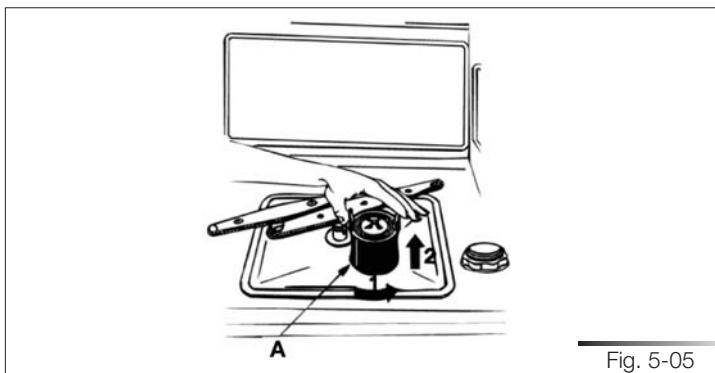
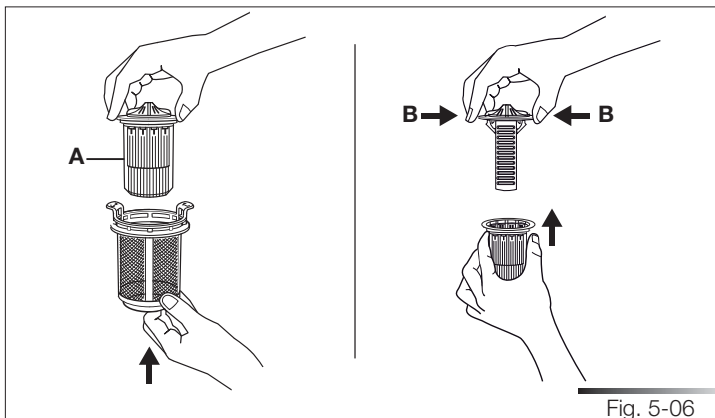

Fig. 5-05
Fig. 5-06
- Periodically inspect the filter unit (ref. A fig. 5-05) and, if necessary, clean it under running water (at room temperature), using a stiff brush. To remove the filter, grip the tabs, turn anticlockwise and lift upwards;
- push the centre filter (ref. A fig. 5-06) from the underside to remove it from the micro-filter;
- separate the two parts which make up the plastic centre filter by pressing the body of the filter in the zone shown by the arrows (ref. B fig. 5-06);
- after cleaning, remount the filter unit, joining the two parts comprising the centre filter by pushing slightly until they click into place; insert the centre filter into the micro-filter (see fig. 5-06). Reposition the filter unit (ref. A fig. 5-05) into its seat, turning it clockwise until it locks.